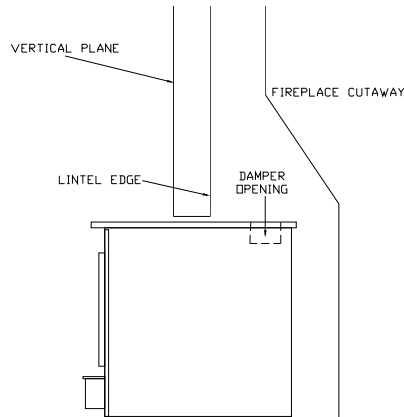

FIGURE 2 POSITIONING
When positioning the heater, the following conditions **MUST** be met! (See Figure 2)
1. The front of the damper opening must be positioned **BEHIND** the rear edge of the lintel to ensure proper draft. (See Figure 2)